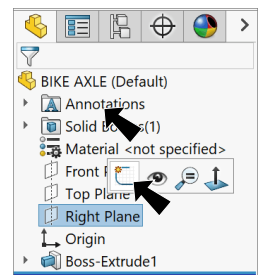

Fig. 5
Step 1. Click **Right**  in the Feature Manager and click **Sketch**  on the context toolbar, **Fig. 5**.